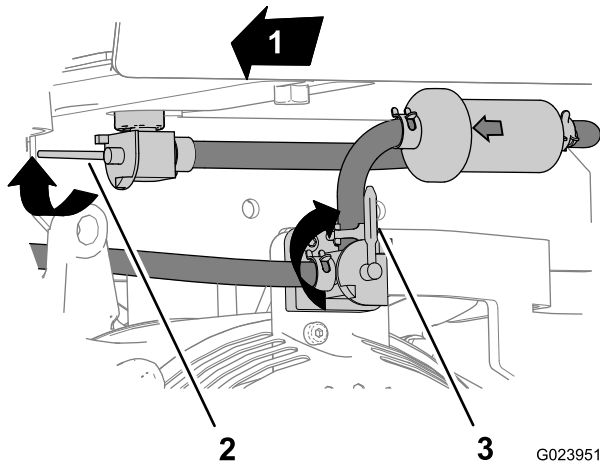

Figure 25
2. Rotate the lever for the tank-shutoff valve forward and up to the Off position (Figure 25).
12. Open the tank-shutoff valve and turn on the engine switch, and check for fuel leaks (Figure 25).